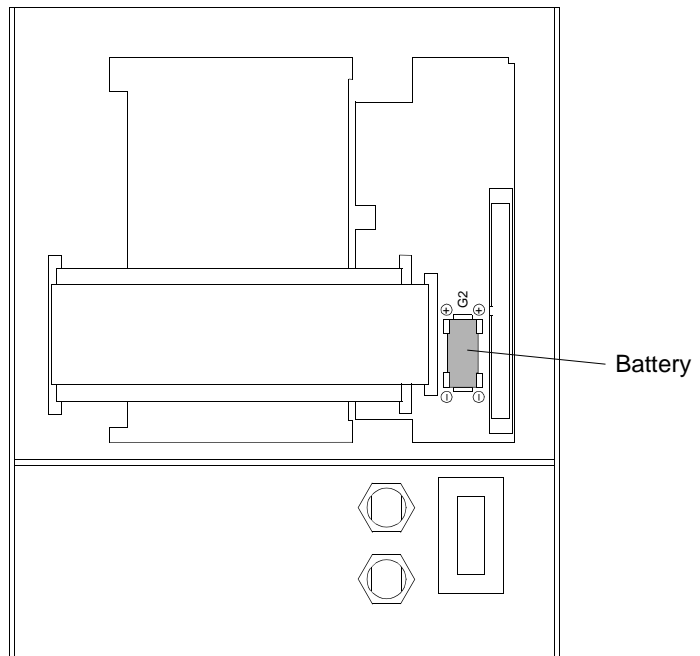

Figure 9-2 Rear view of the front panel (1/2 case) showing battery location
- Place the new battery into the clamp fixture as shown in Figure 9-2.
- Fuse in the power supply has not blown. The location of the fuse is shown in Figure 9-2. If the fuse needs to be replaced, see Sub-section 9.5.2.
- Remove the defective fuse. Figure 9-2 illustrates the fuse. The location is subject to change, but there is only one fuse on the CPU board.